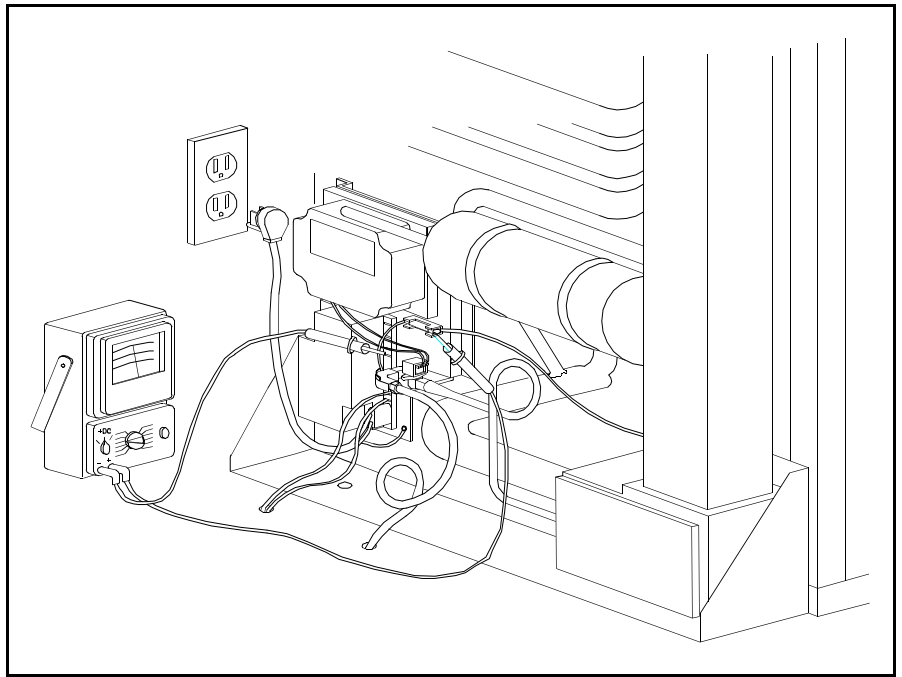

Figure 5.61 DC Heater Fuse Check
- 21. Check for 12 volts across the DC heater fuse as shown by Figure 5.61. If 12 volts is not measured, the fuse is blown and must be replaced.